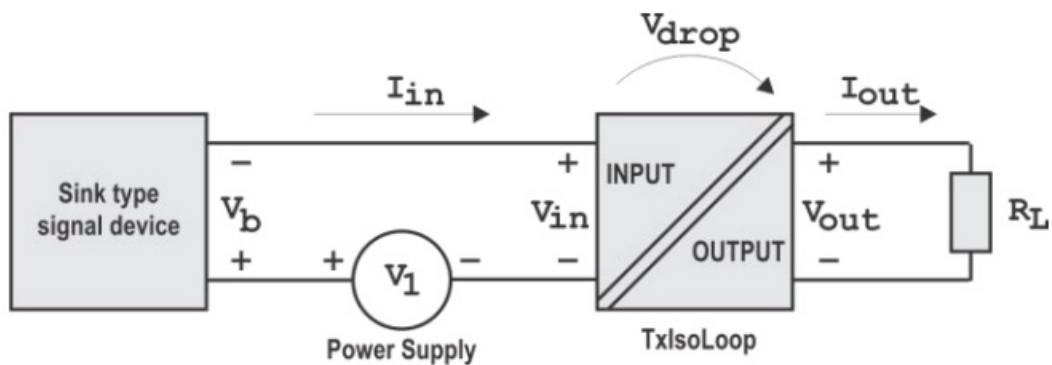

Figure 2 Connections on the TxIsoLoop with sink type devices
2. With sink type devices (2-wire transmitters), the energy is provided by an external power supply in series in the loop, as shown in Figure 2.